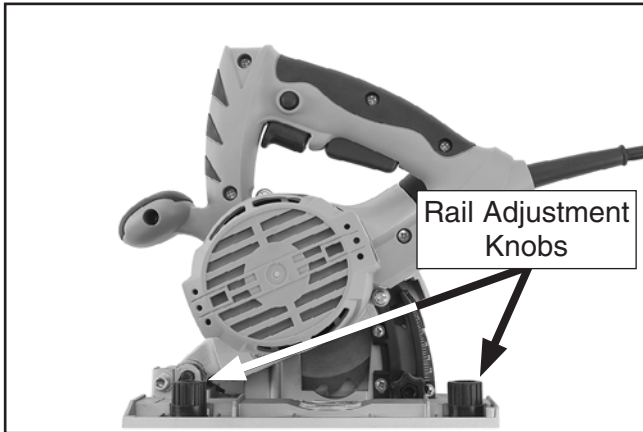

Figure 20. Location of rail adjustment knobs.
4. Configure rail adjustment knobs to minimize play and achieve desired gliding friction (see **Figure 20**). When engaged, rail adjustment knobs can help keep saw from lifting off track.